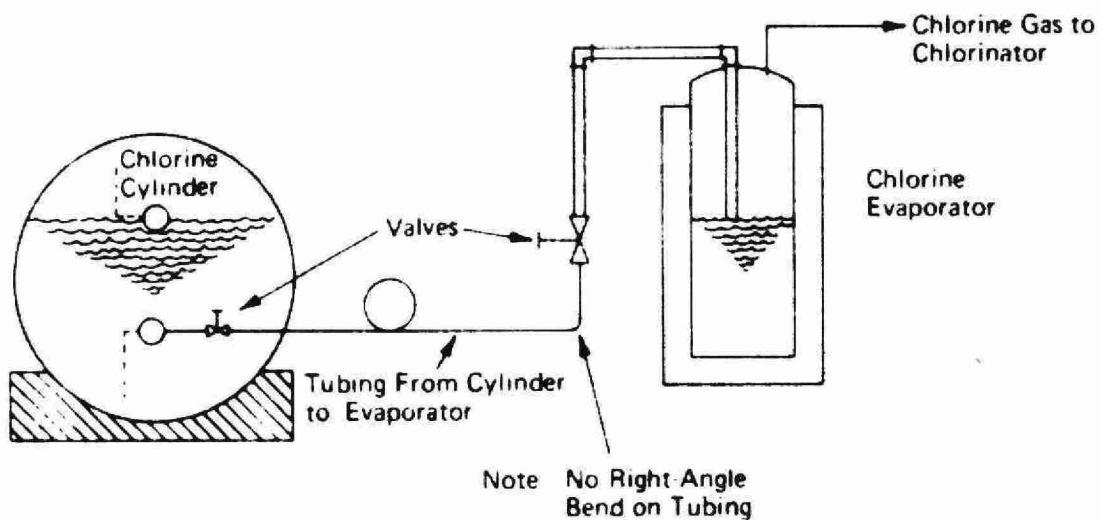

Figure 3-7 ONE TON CONTAINER-EVAPORATOR CONNECTION
*Never operate valves in such a manner as to isolate chlorine gas or liquid in a line. In some installations using one-ton cylinders, there is a short length of tubing running between cylinder(s) and evaporator(s). There is a valve on the cylinder and one on the evaporator line. (See Figure 3-7). The tubing between the two is full of liquid chlorine during normal operation. If for some reason the valve on the evaporator line is closed and then the cylinder valve shut, the tubing is left full of liquid chlorine. A small increase in temperature will cause a considerable increase in gas pressure. With the tubing full of chlorine and closed at both ends, there is no room for gas expansion and a potentially dangerous situation exists.*